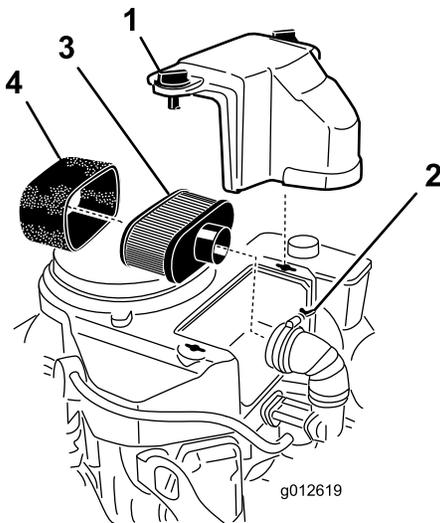

Figure 40
3. Clean around the air cleaner to prevent dirt from getting into the engine and causing damage (Figure 40).
4. Unscrew the cover knobs and remove the air cleaner cover (Figure 40).
5. Unscrew the hose clamp and remove the air cleaner assembly (Figure 40).
6. Carefully pull the foam element off the paper element (Figure 40).
1. Clean the paper element by tapping gently to remove dust. If it is very dirty, replace the paper element with a new one (Figure 40).
1. Carefully slide the foam element onto the paper air cleaner element (Figure 40).
2. Place the air cleaner assembly onto the air cleaner base or hose and secure it (Figure 40).
3. Place the air cleaner cover into position and tighten the cover knob (Figure 40).